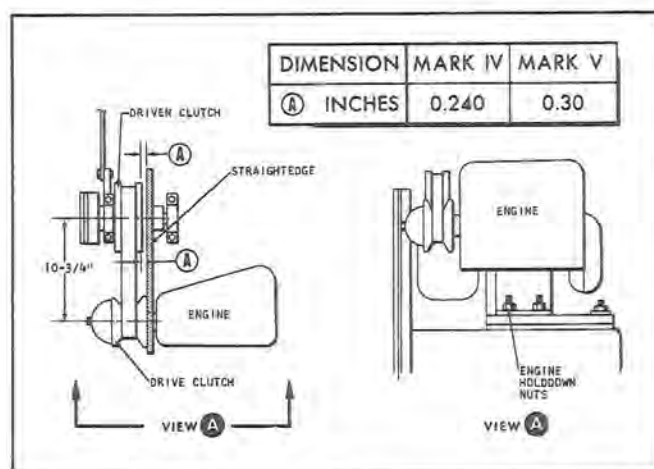

Figure 6
Proper tension for a new drive belt should be obtained when the clutch centers are set approximately 10-3/4 inches apart (see figure 6). Proper tension for a drive belt that has been used is obtained when opposite sides of the belt can be squeezed, between the drive clutches to the following dimensions:
- Loosen the engine holddown nuts securing the engine supports to the engine mount straps as illustrated in figure 6.
- Place a straightedge on the fixed face of the drive clutch and move the engine until the offset between the straightedge and the front and rear edges of the driven clutch is as shown in figure 6. Rotate driven clutch 90-degrees and repeat procedure.